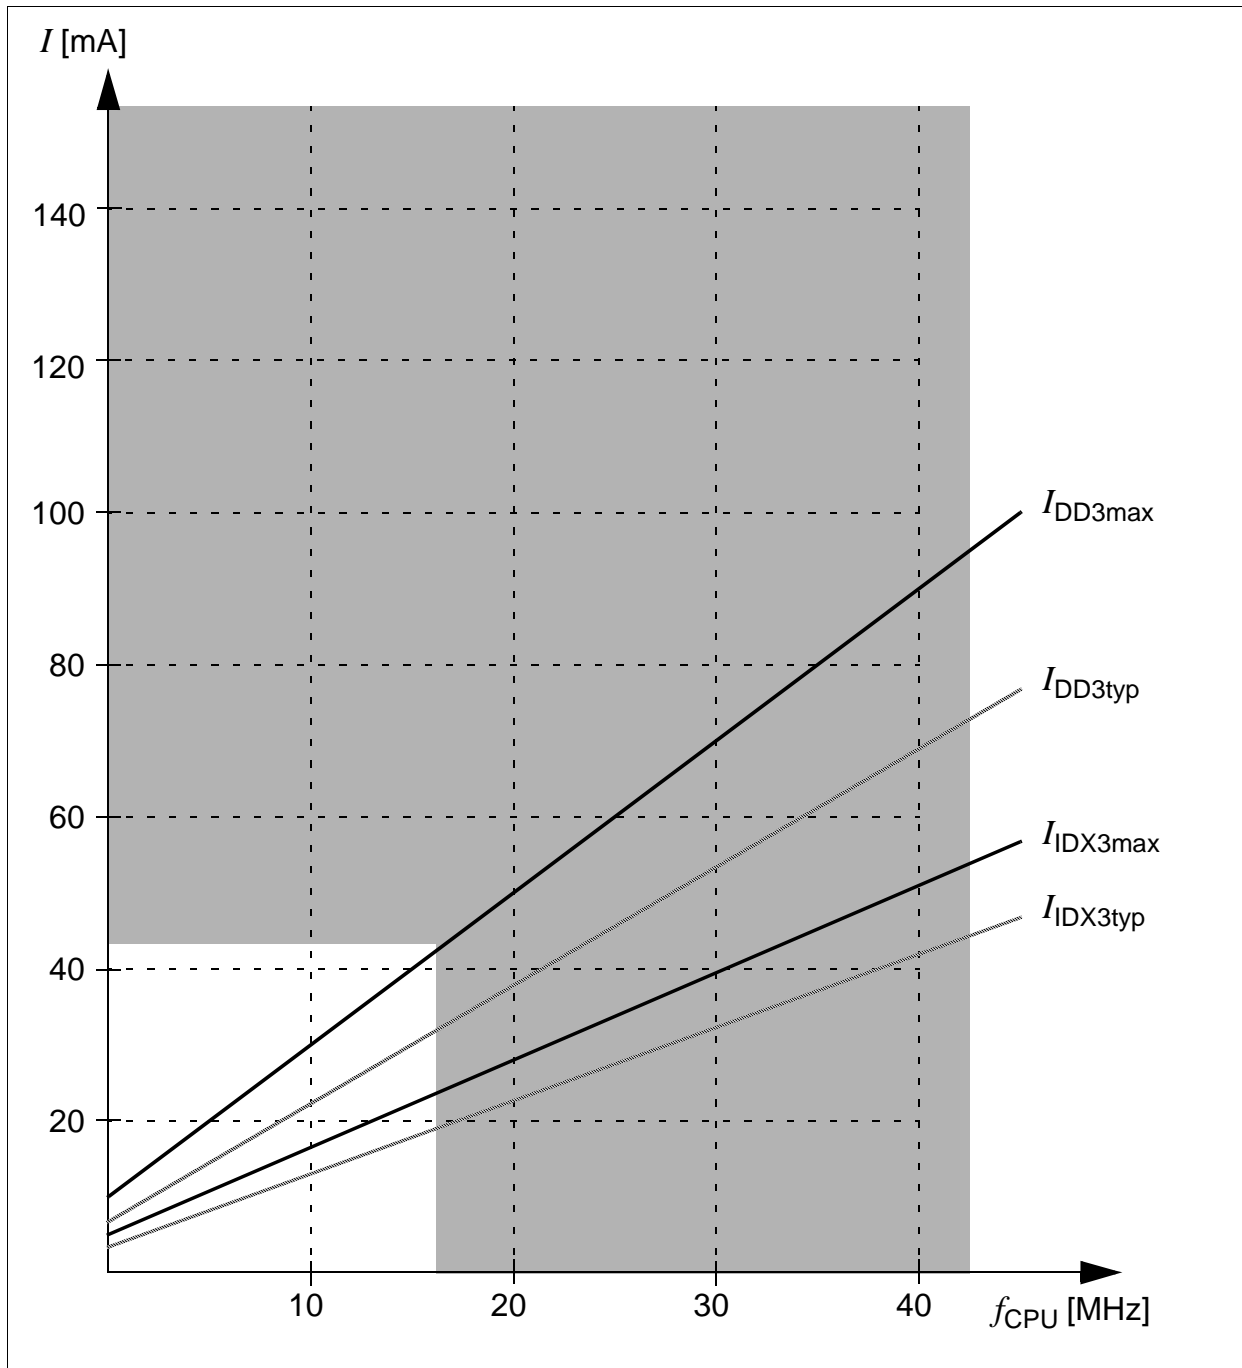

Figure 10 Supply/Idle Current as a Function of Operating Frequency
1) The supply current is a function of the operating frequency. This dependency is illustrated in Figure 10.